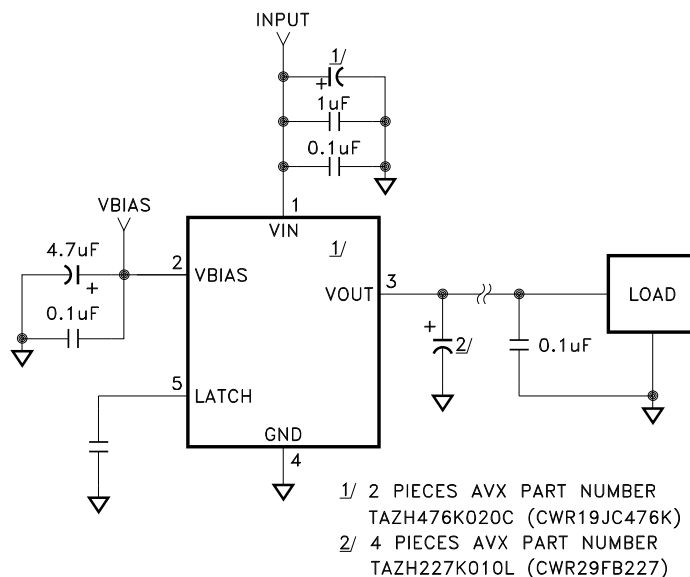

FIGURE 2
- ① Unless otherwise specified, $V_{IN} = V_{OUT} + 1V$, $V_{BIAS} = 5V$ and $I_{OUT} = 10mA$. See figure 2 for typical test circuit.
- ② Guaranteed by design but not tested. Typical parameters are representative of actual device performance but are for reference only.
- ③ Industrial grade devices shall be tested to subgroups 1 and 4 unless otherwise requested.
- ④ Military grade devices ("H" and "K" suffix) shall be 100% tested to subgroups 1,2,3 and 4.
- ⑤ Subgroup 5 and 6 testing available upon request.
- ⑥ Subgroup 1,4 $T_C = +25^\circ C$